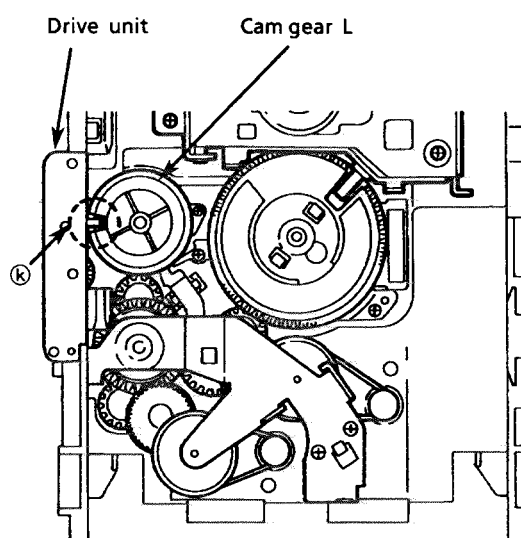

Fig. 33
2. Rotate the Cam gear L so that the drive unit's pole ④ is positioned as shown in Fig. 33.